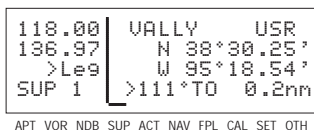

Figure 4-78
5. Press [ENT]. The SUP 1 page for your new waypoint will be displayed with its latitude and longitude (figure 4-78). The cursor is turned off automatically.